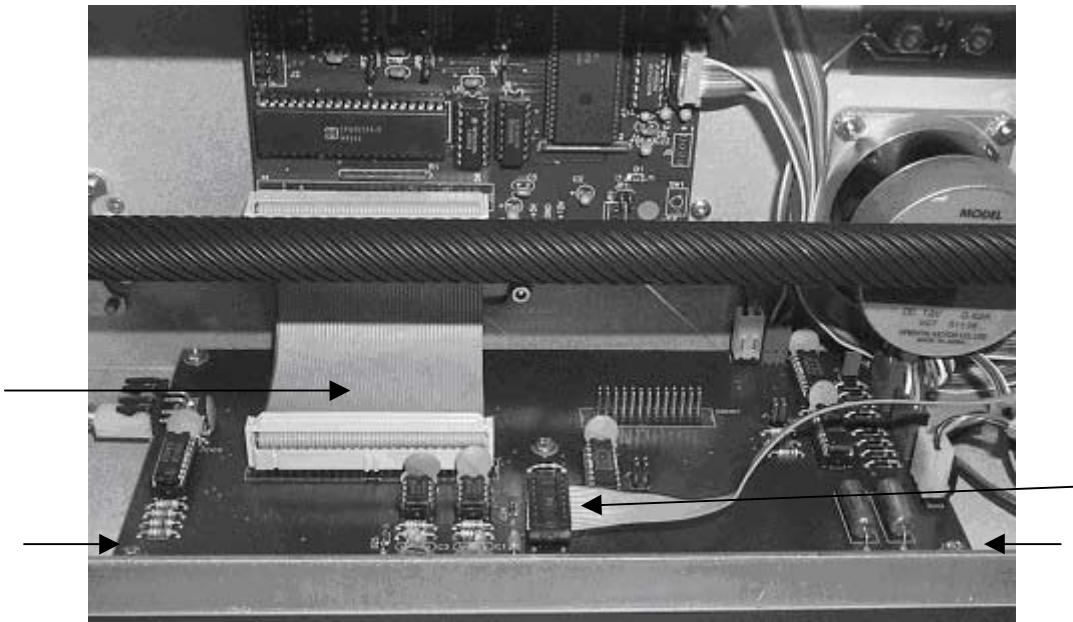

Figure 1-12. View of ASX-510 showing CPU boards.
9. The circuit boards are now accessible. Remove both ribbon cables. The front two screws will also need to be removed. See Figure 1-12.